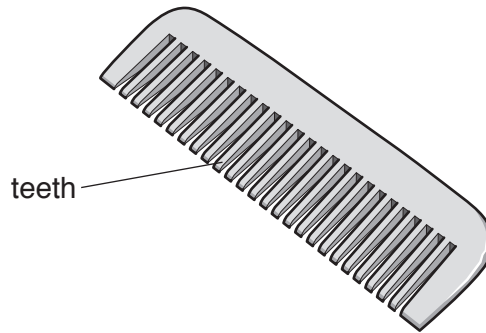

Fig. 8
14 Fig. 8 shows a hair comb.
- (a) Identify **two** properties that would be useful in a material used to make the comb shown in Fig. 8. [2]